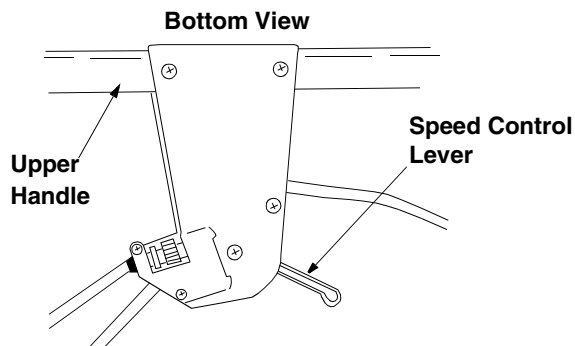

Figure 15
- Start engine and place speed control lever in the sixth speed position. See Figure 15.